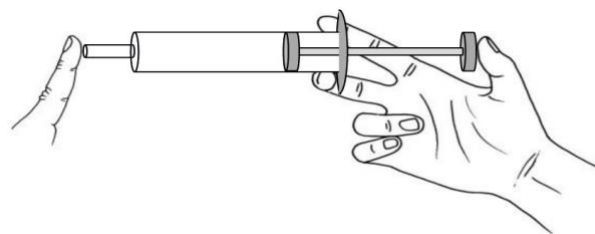

Figure2: Close the outlet tube tightly with a finger, then try to push the plunger in.
1.1 Explain the feeling when you push the plunger in figure 2?